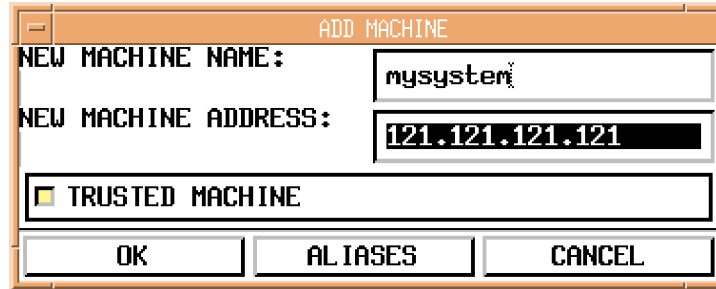

Figure 28. ADD MACHINE Window
- STEP 1: Click on the ADD button.** The `ADD MACHINE` window appears (Figure 28).